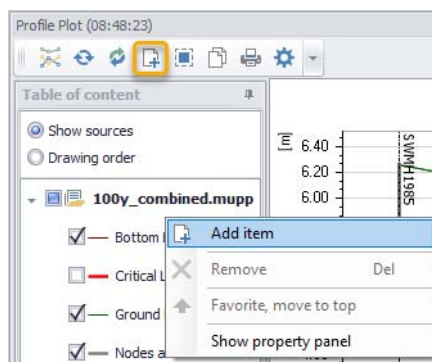

Figure 20.32 The 'Add item' tool on the Profile Plot window
- Add simulation results to a profile plot using the 'Add item' button on the Profile Plot window (Figure 20.32.). The option is also offered from the local context menu (i.e. right-click) on the left panel of the profile plot form.